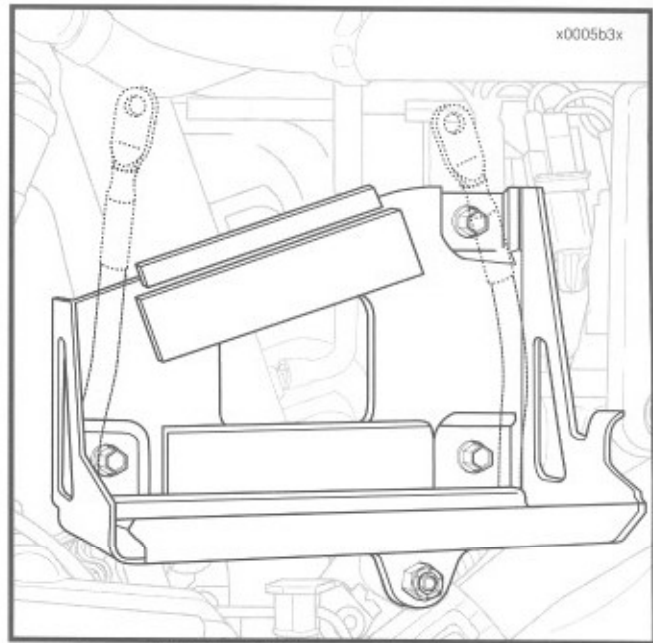

Figure 3-48. Install Battery Tray (Left Side View)
9. See Figure 3-48. Position battery tray onto motorcycle fitting tab at bottom of tray over frame-mounted rubber mount stud. Secure three corners of battery tray to brackets on oil tank using bolts and washers. Position wire form retainer for positive battery cable under front bolt. Install locknut on frame-mounted rubber mount stud. Tighten three bolts to 12-15 **ft-lbs** (16-20 Nm) torque. Tighten locknut on rubber mount stud to 36-60 **in lbs** (4.1-6.8 Nm) torque.